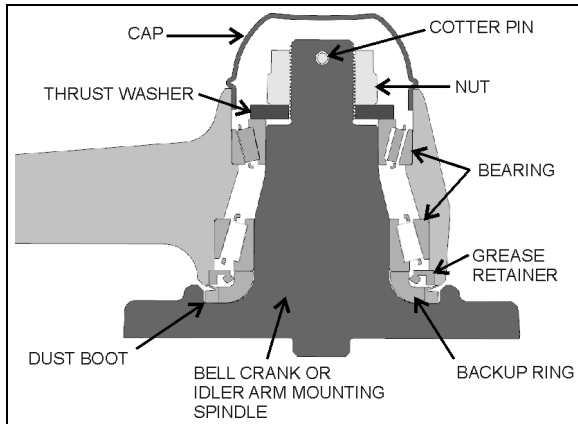

FIGURE 17: BELL CRANK OR IDLER ARM HUB
2. Remove the cap (fig. 17).
3. Remove the cotter pin, nut and thrust washer. Remove bearings, grease retainer, backup ring and the bell crank or idler arm from its mounting spindle (fig. 17).
Install grease retainer according to figure 17. Grease must be able to exit the bell crank or idler arm mechanism. For grease retainer installation use tool Prevost # 110683.